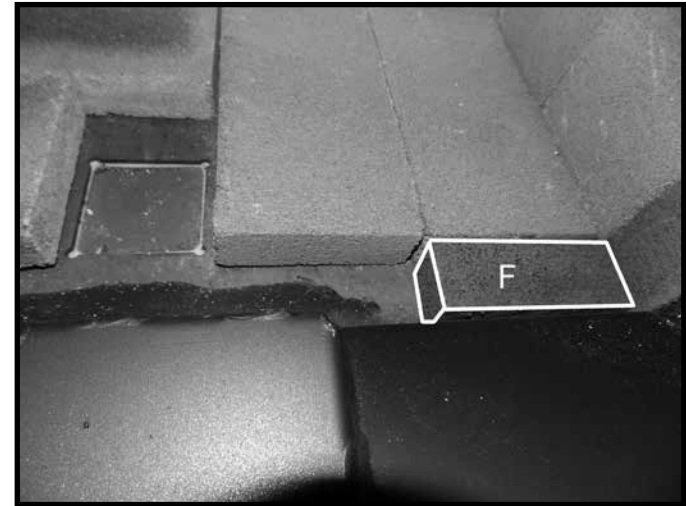
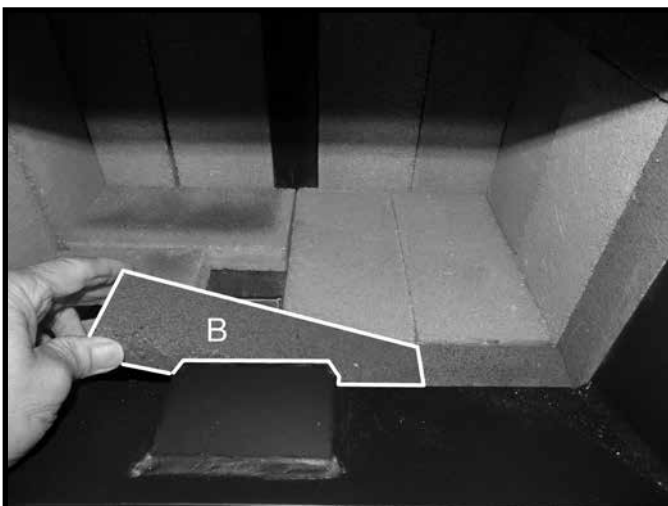
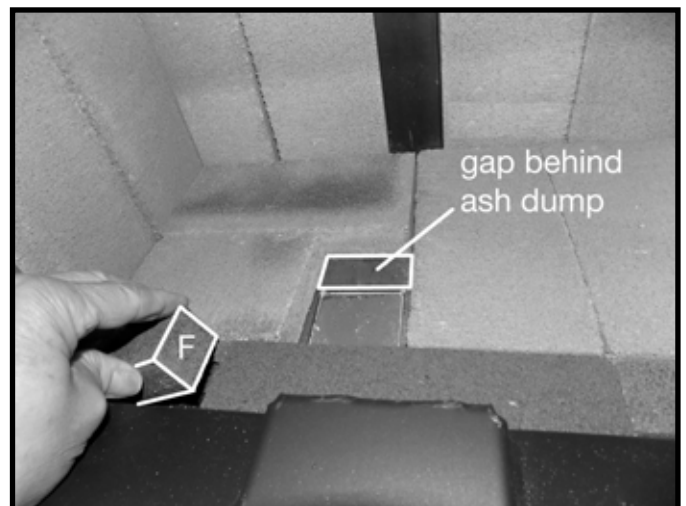

Figure 22. Short, narrow brick installed in front row.
Figure 23. Long, narrow center brick in front row.
Figure 24. Final short, narrow brick in front row.
9. Place a short narrow "F" brick against the front right side of the floor (Figure 22) followed by a longer "B" brick in the center of the front row (Figure 23). Finish with the last "F" brick placed against the left side front row (Figure 24). Note: There will be a gap remaining behind the ash dump.